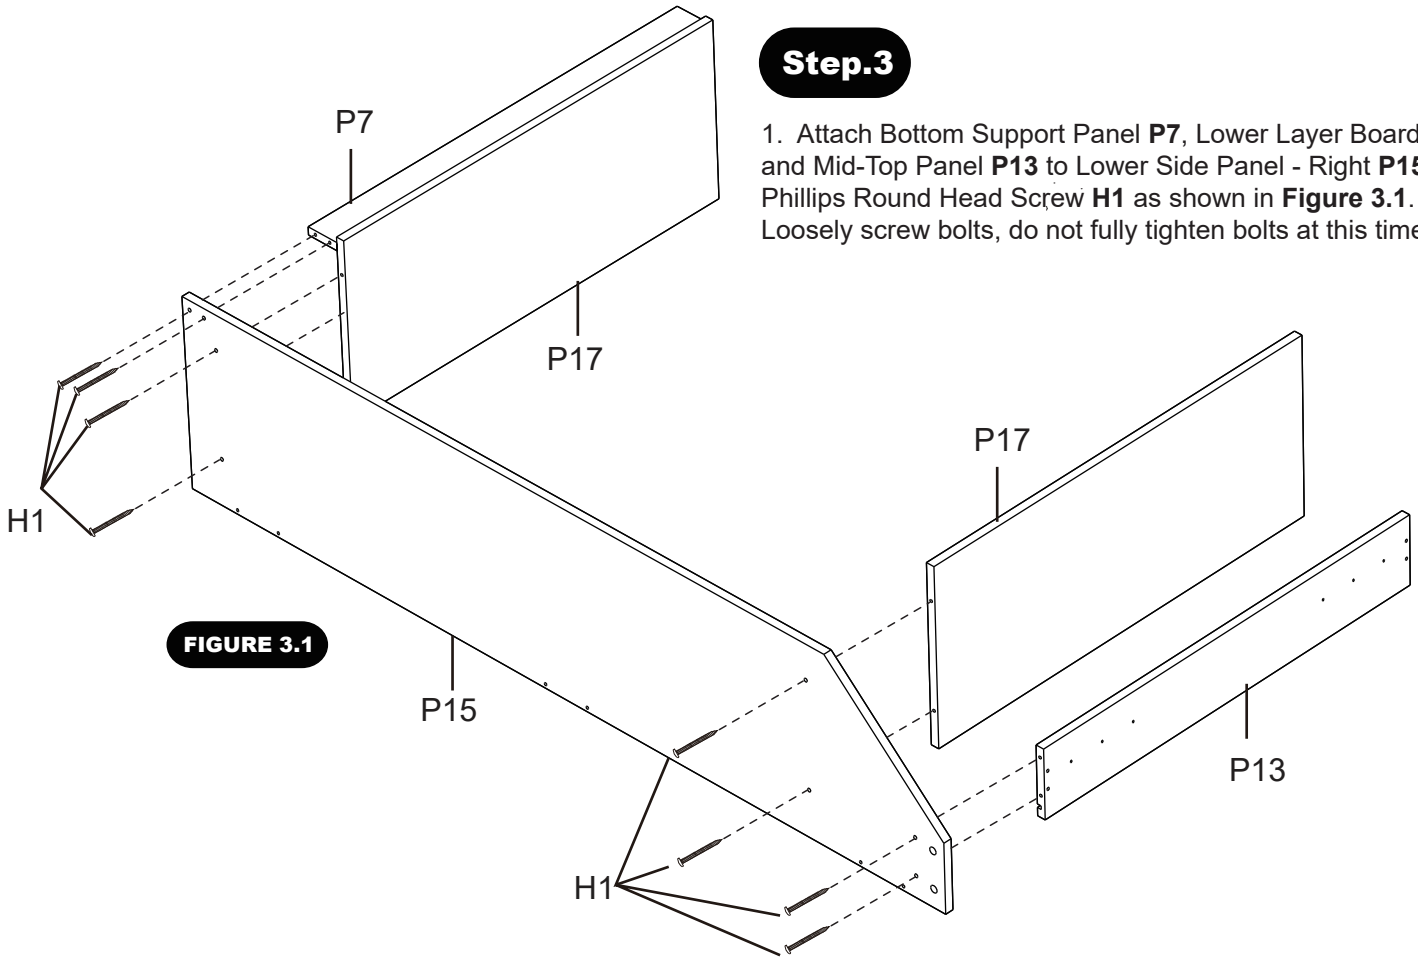

FIGURE 3.1
1. Attach Bottom Support Panel **P7**, Lower Layer Board-A **P17** and Mid-Top Panel **P13** to Lower Side Panel - Right **P15**, use Phillips Round Head Screw **H1** as shown in **Figure 3.1**. Loosely screw bolts, do not fully tighten bolts at this time.